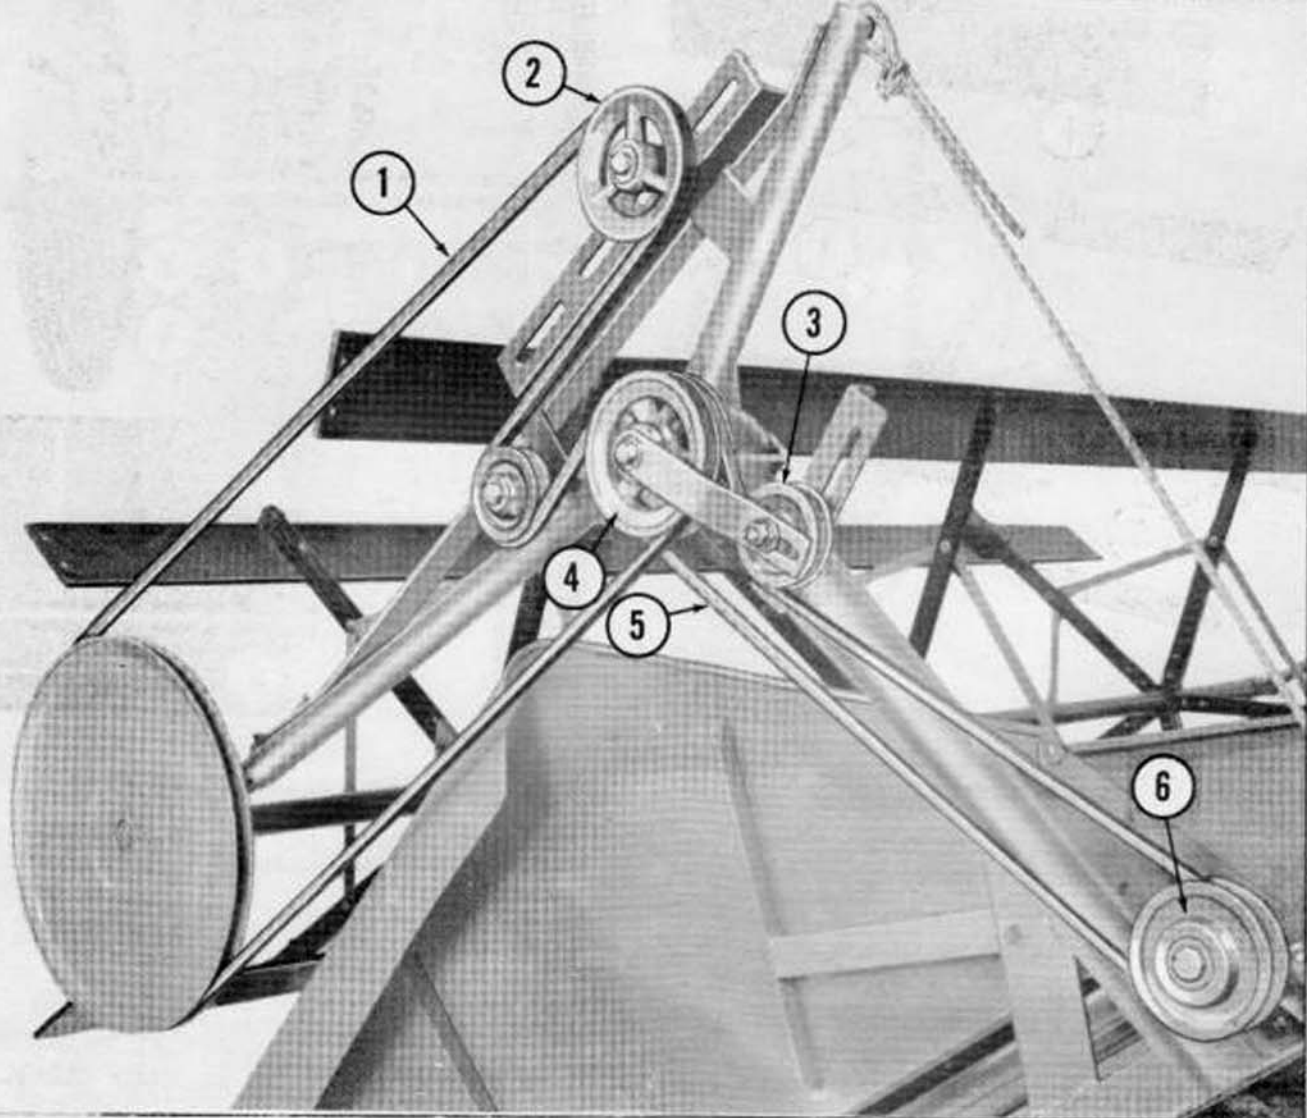

Figure 20
- a. Remove the belt tightener (3), Figure 20, and install the primary reel drive belt (5) on the inner half of the double sheave (4) and around the variable speed drive sheave (6) as shown.
- b. Install the secondary reel drive belt (1), Figure 20, on the outer half of the double sheave (4), then around the idler, the tightener (2), and reel sheave as shown.
- c. Reattach the belt tightener (3), Figure 20, and adjust for proper deflection of the primary drive belt. Adjust the tension on the secondary drive belt by means of the tightener (2).